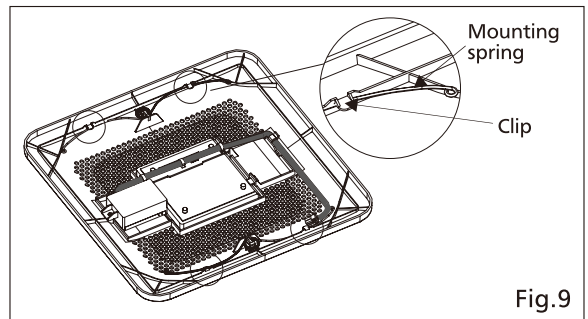

Fig.9
11. Take out the mounting springs from clips. (Fig.9)